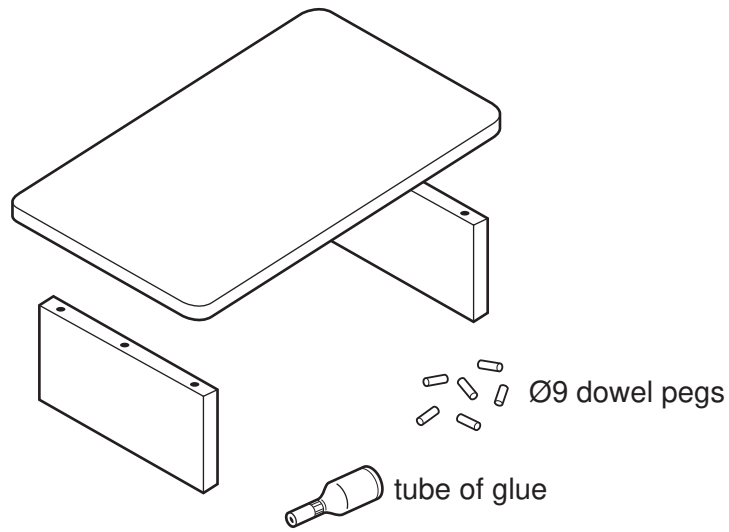

Fig. 6
- (c) Fig. 6 shows an exploded view of parts of the table, including the dowel pegs and glue used to join the ends to the base.